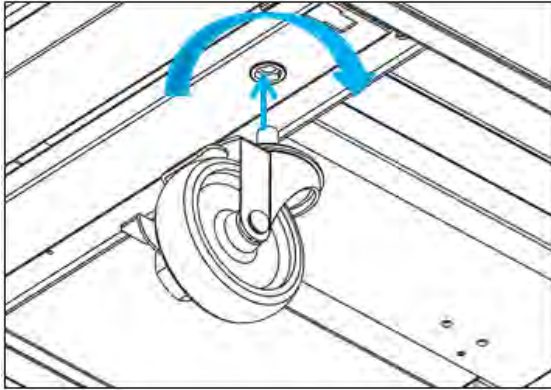

Figure 3
(1). Reach-ins (Figure3): Install casters in the bottom rails assembly on the bottom of the unit. It is important in order to achieve maximum strength and stability of the unit that you ensure that each caster is securely tightened with a 3/4" (19mm) open-ended wrench. Casters with brakes must be installed in front. And the casters must be in contact firmly with the bottom rails of the unit.